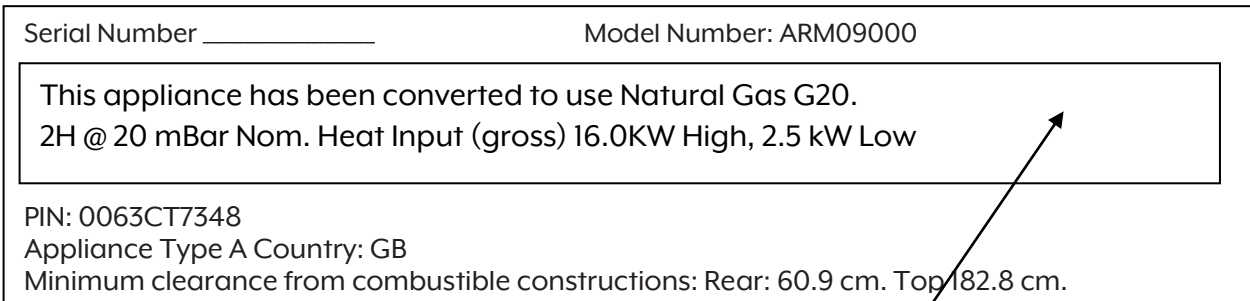

Figure 9
10. Stick the conversion label on the rating plate as shown in Figure 9.